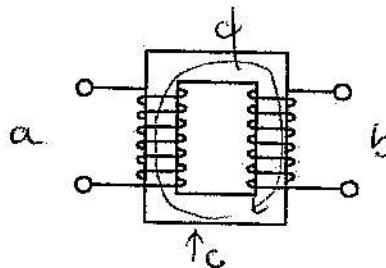

Figure 1
14. Cut and paste the diagram of figure 1 to your answer sheet.